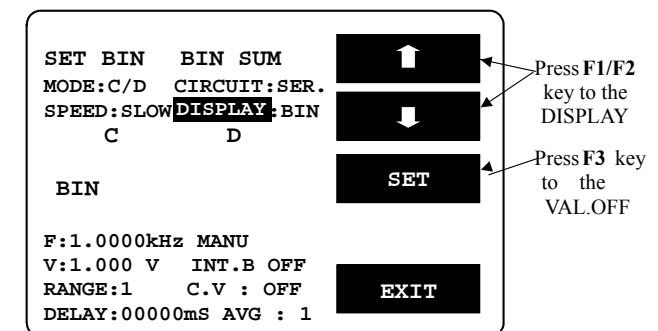

Figure 8-5
- Press F3 key to select BIN, VAL or OFF shown as Figure 8-5 (When the BIN is selected, BIN1~BIN13 represents PASS, while PHI, PLO, and SREJ represents FAIL result. The VAL is to display test value while the OFF represents as non-display.)